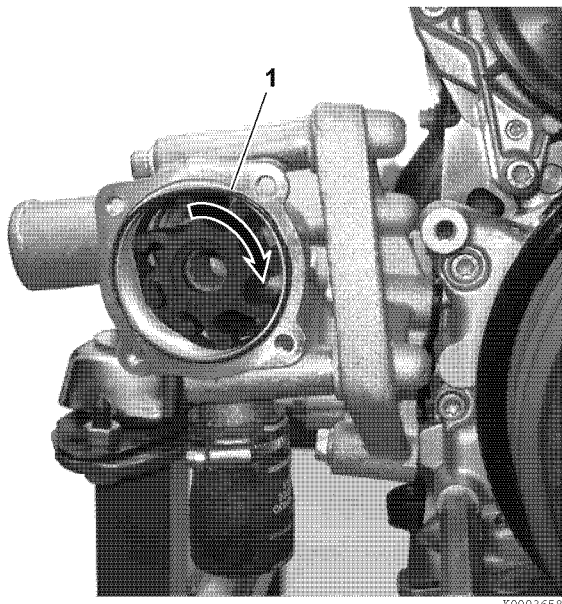

Figure 7-26
Note: When installing the new impeller, rotate the impeller clockwise to bend the vanes in the direction of rotation (Figure 7-26).
7. Install a new O-ring (1, Figure 7-26) and hold it in the groove using petroleum jelly.